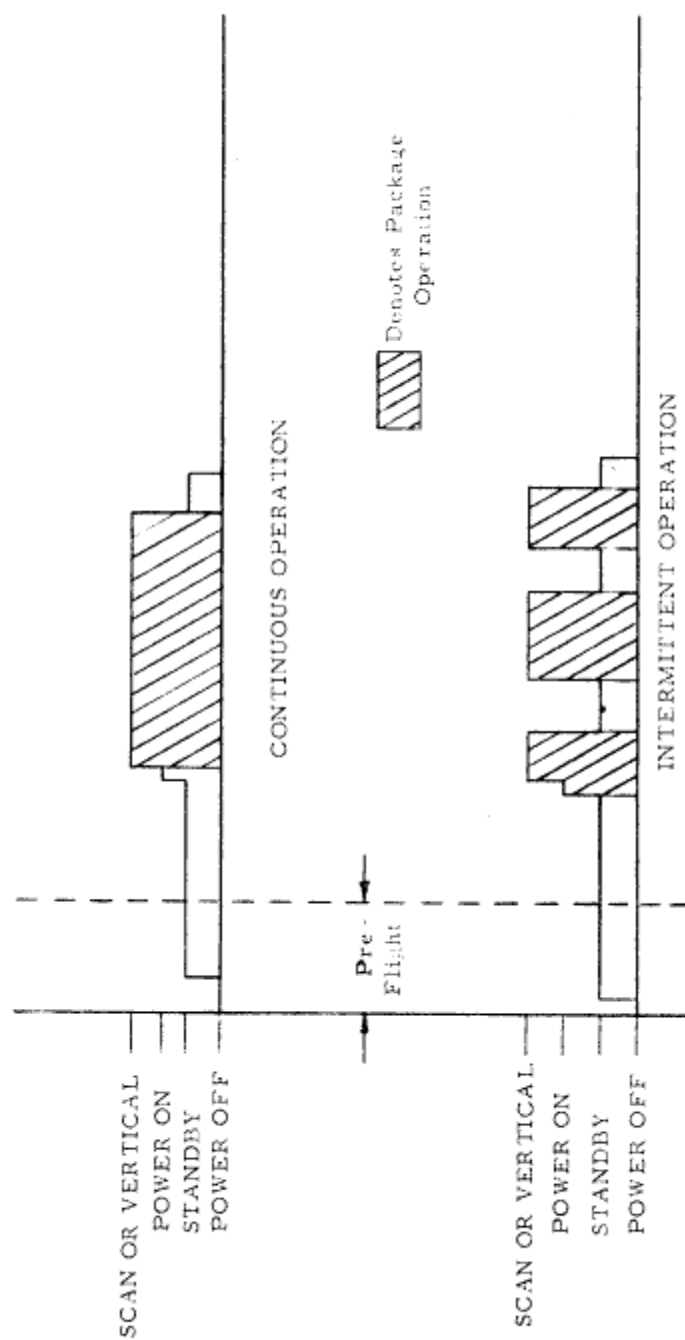

Figure 3-4. Typical Type III Mission Profile
- 3-12. Two typical Type III mission profiles are shown in Figure 3-4. Mission 1 shows continuous operation of the package for a segment of the entire mission. Mission 2 shows intermittent operation of the package for arbitrary portions of the mission. In practice, the package will always be placed in the STANDBY position at some point during the final pre-flight check and will remain there until the start of the mission.